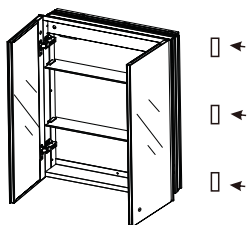

Fig.3
2.1 Paste EVA foam rubber pad on the mirror cabinet (Fig.3)